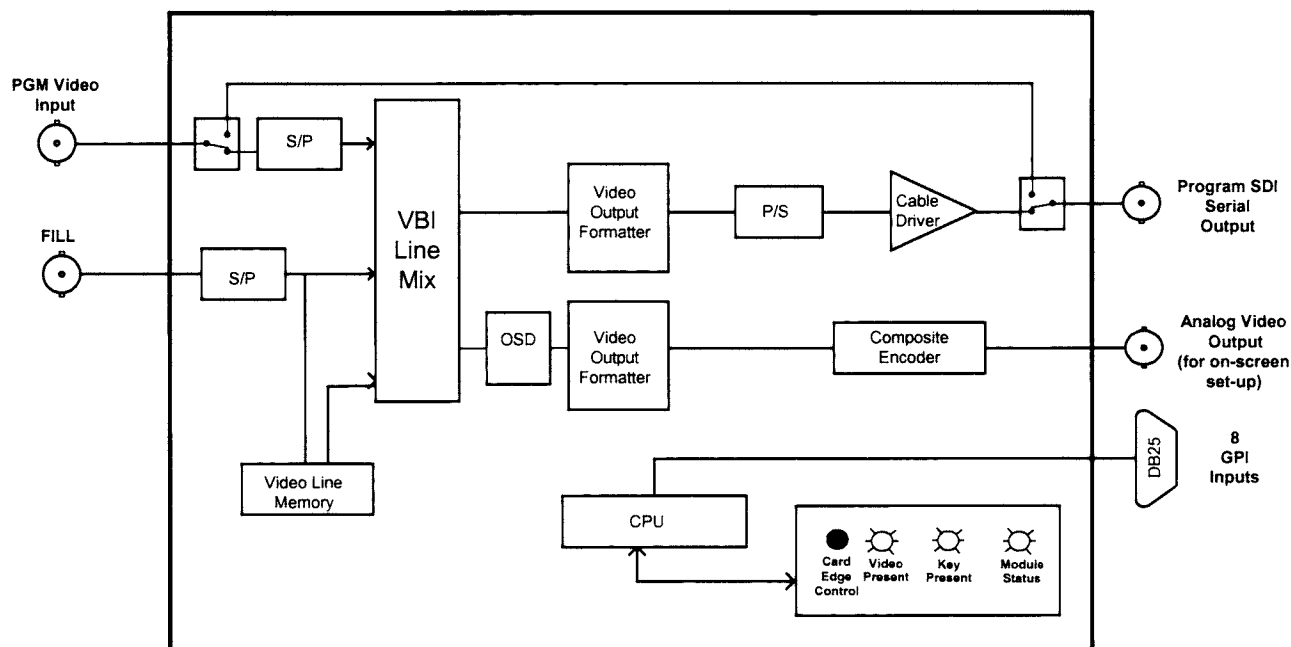

Figure 1: 7725VBI-K Block Diagram
- Figure 1: 7725VBI-K Block Diagram 1